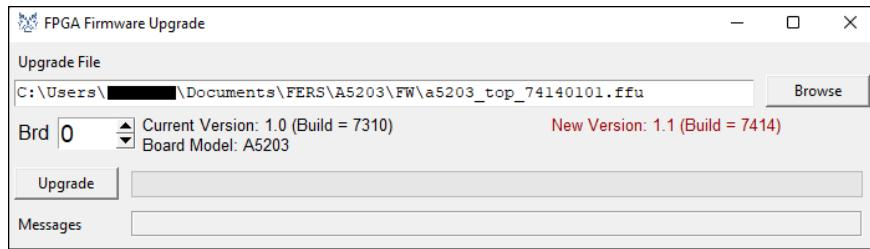

Fig. 12.3: FPGA Firmware Upgrade window with the new FPGA firmware file path visualized.
- Once the selection is finished, the file location is displayed on the "Upgrade File" field, as in **Fig. 12.3**.